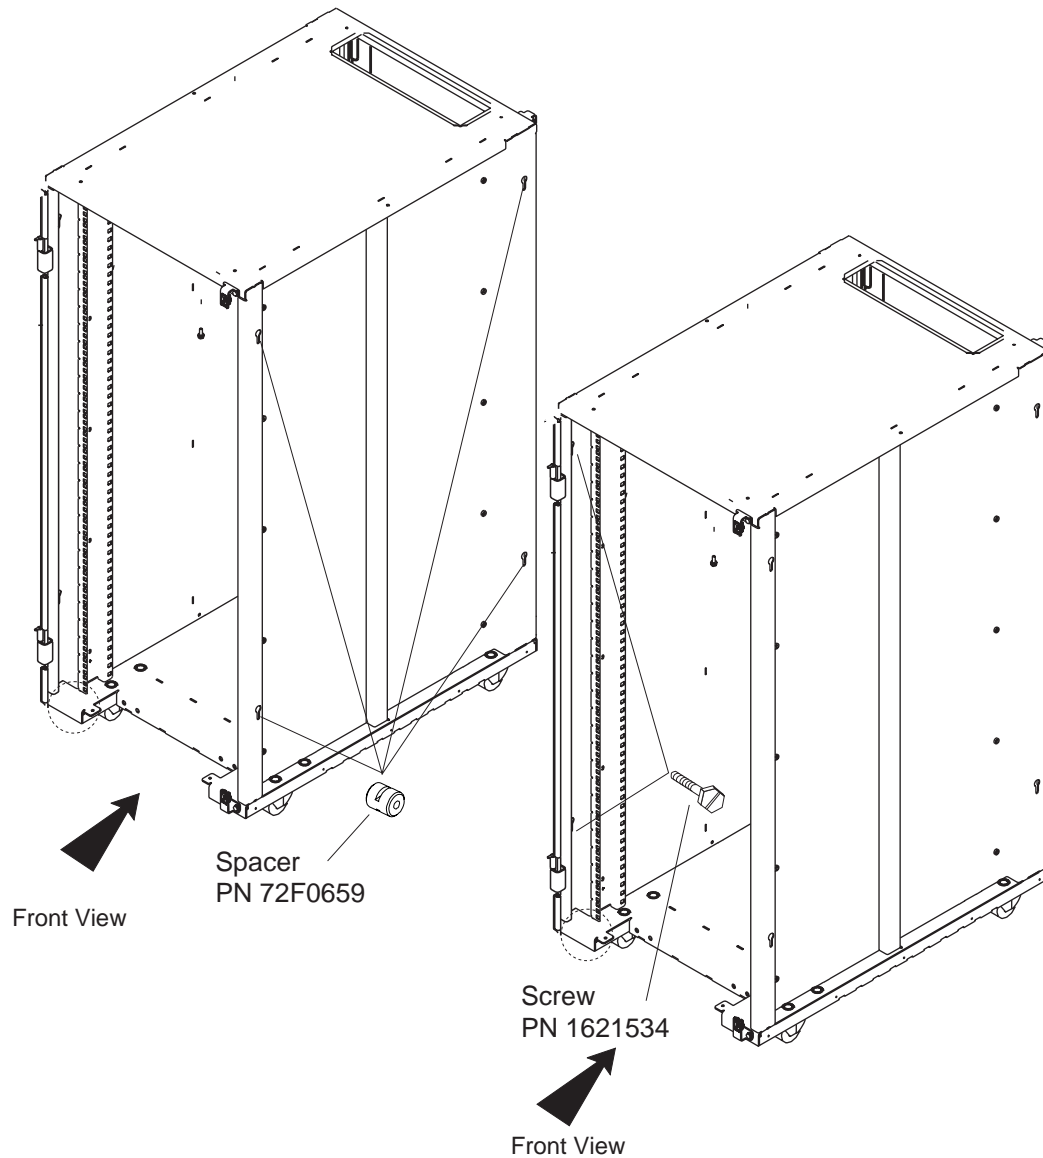

Figure 3-3. Installing the Spacers on the Frame (with 29 U Racks)
3. \_\_\_\_ Install four spacers (PN 72F0659) on the tubular frame of the 2220-500(see Figure 3-3 on page 3-5).